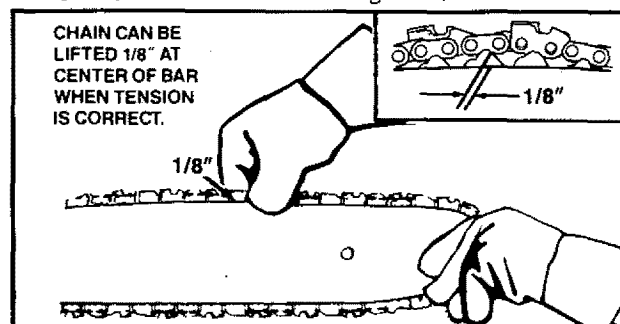

Figure 10
5. Recheck tension. See Figure 10.